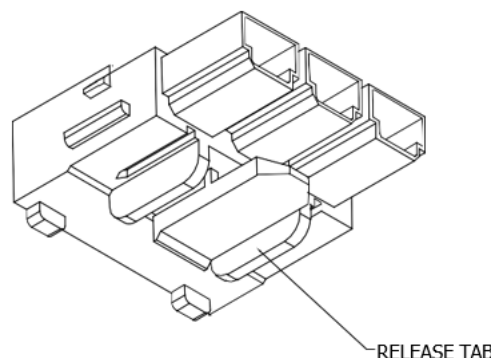
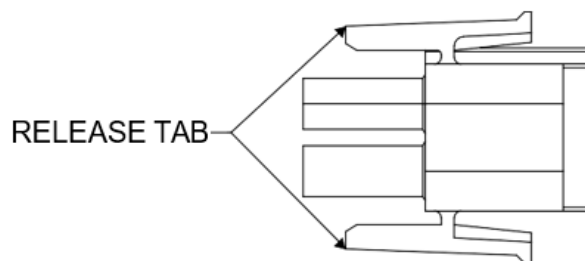

Figure 45 Line Voltage Connector (3 Pin)
Figure 46 Low Voltage Connector (6 Pin)
5. Unplug mating harness connectors for low voltage and high voltage in the control section **FIGURE 46- Line Voltage Connector, FIGURE 47- Low Voltage Connector.**
3. Disconnect low voltage (6 pin) & line voltage (3 pin) harness connectors by pressing on the release tabs and using a downward motion (**FIGURE 45 - Line Voltage Connector (3 Pin) & FIGURE 46 – Low Voltage Connector (6 pin)**).